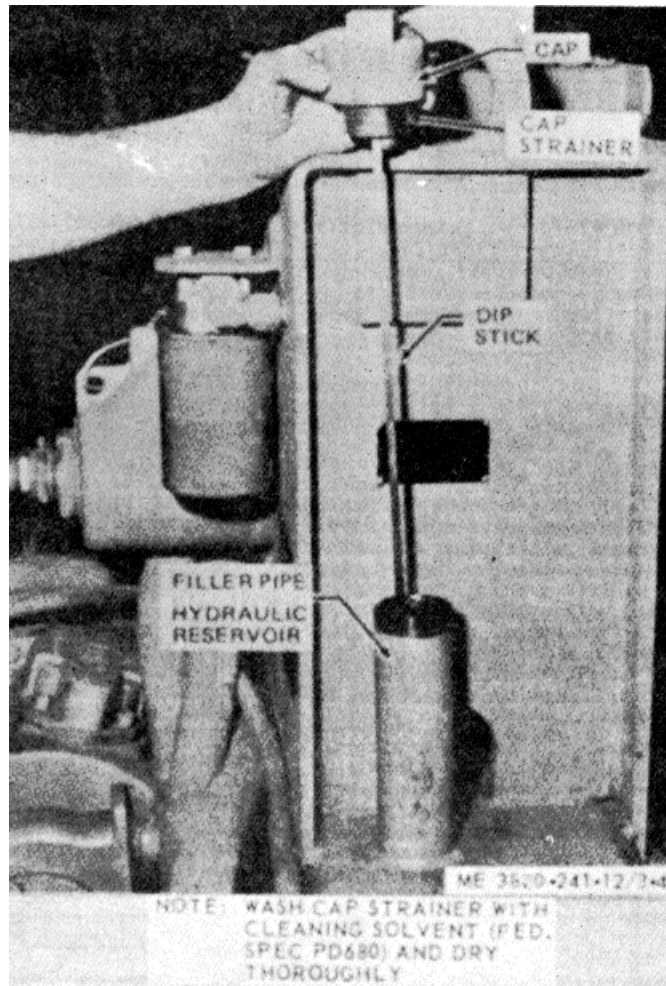

Figure 3-4. Hydraulic oil reservoir service.
- b. Oil Reservoir. Refer to LO 5-3820-241-12 and service the hydraulic oil reservoir as illustrated in figure 3-4.